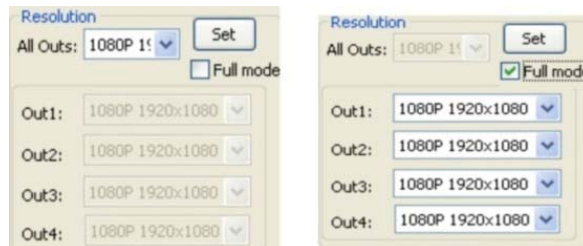

**Figure 31: Output Display On/Off**
**Output Display On/Off:** It is used to display/undisplay the output image of one channel. Select the check boxes and press the button **Set** to confirm. As shown in **Figure 31**.